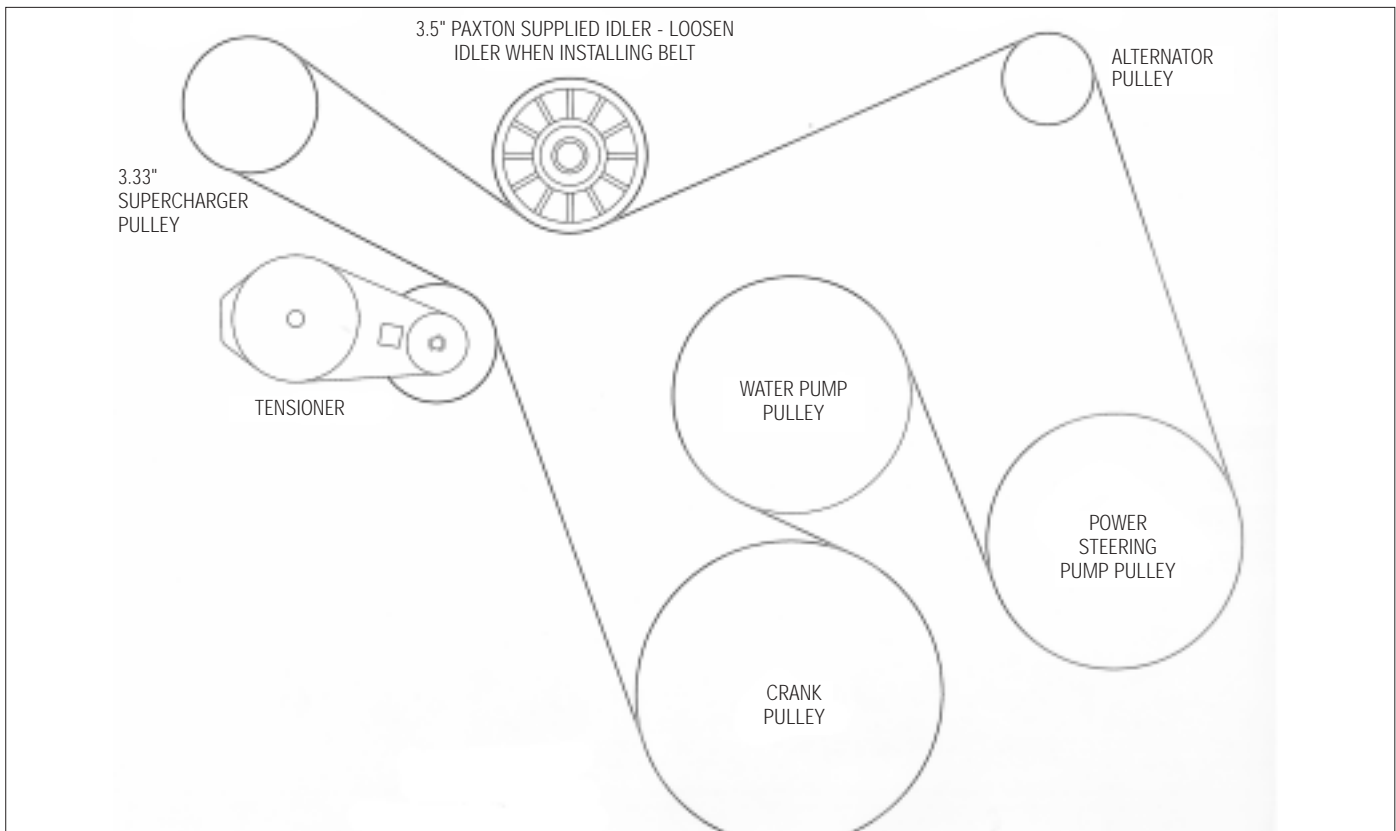

Fig. 8-e
- E. Secure the tensioner spacer to the large mounting plate over the previously installed flathead screw with the supplied 1/4" hardware entering from behind the plate. Mount the spacer so that the non-threaded hole is oriented on the bottom and angled toward the passenger's side of the vehicle. (See Figs. 8-d, 8-f.)